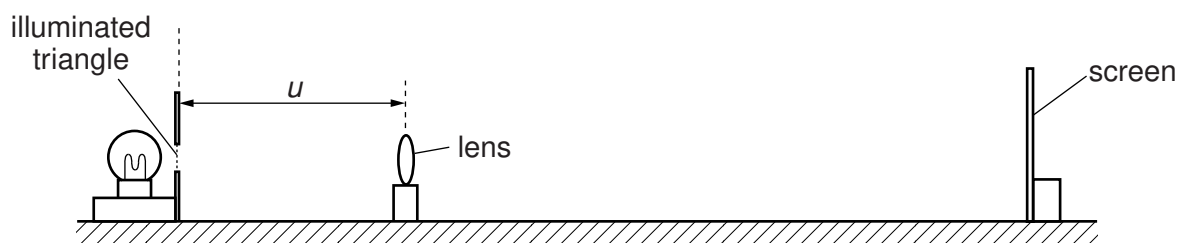

Fig. 1.3
3. The apparatus must be set up as shown in Fig. 1.3 with a distance u of 20.0 cm. The position of the screen is immaterial.